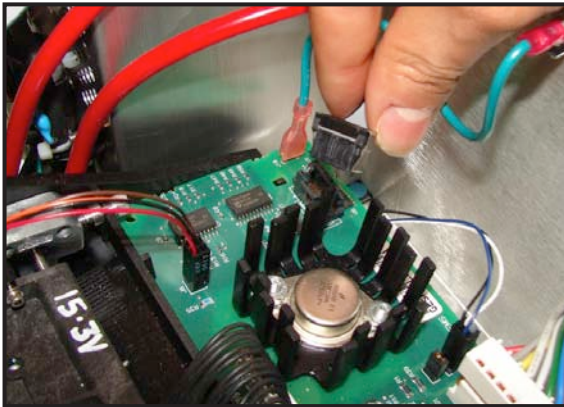

Figure 6-42
8. Disconnect the recorder ribbon cable from the J2 connector on the recorder board (See Figure 6-42).
2. Disconnect the recorder ribbon cable from the J2 connector on the recorder board (See Figure 6-42).